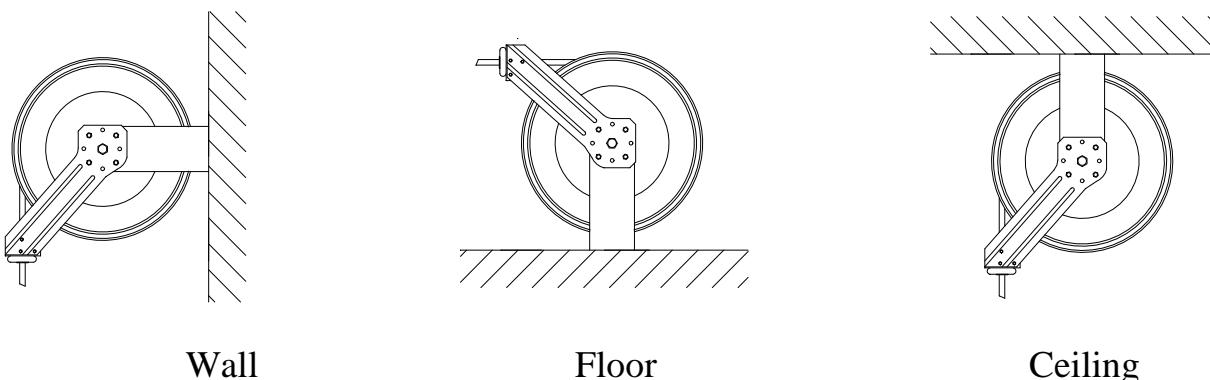

Figure 2.
1. The reel base has four 1/2" (or 12.7mm) drilled holes for mounting on a suitable flat surface. Figure 2 is a template showing the correct location of the 4 mounting holes in the base.
2. The reel is supplied with a hose guide roller bracket. The bracket position may be changed depending on the reel mounting position. Figure 2 shows "Typical Mounting Positions". If bracket position needs to be changed, do the following: